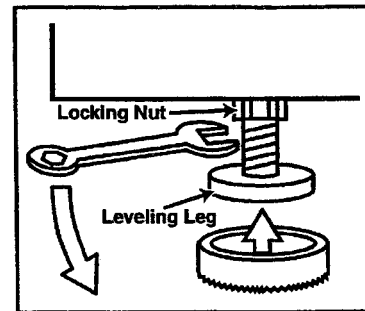

Figure 1-3
2. Tip washer slightly forward. Loosen rear leveling leg lock nuts. Tip washer back slightly to loosen front leveling leg lock nuts (*Figure 1-3*).
5. Install the rubber feet, found in the installation package, on all 4 legs (**Figure 1-3**).